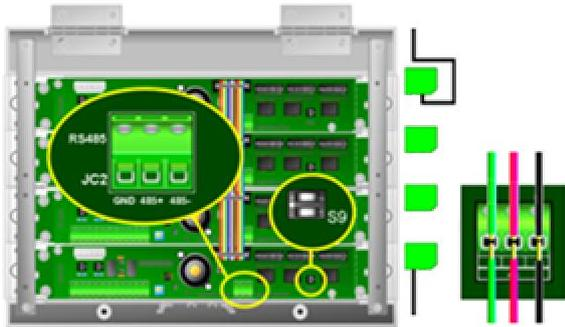

Figure 2.9 RS-485 Connection for g-Smart Data Display Enhanced™ Modules.
- Step 4** Connect the incoming RS-485 cable (from the last network node) to 485+, 485-, and GND connectors of JC2 of the first module (see Figure 2.9).
- Step 6** Connect the outgoing RS-485 cable (to the next network node) to 485+, 485-, and GND connectors of JC2 of the last module (see Figure 2.9)..